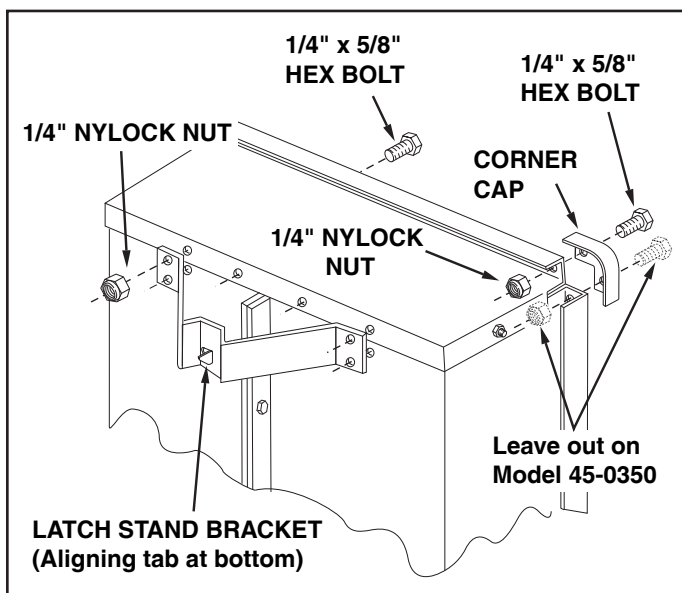

FIGURE 5
12. Assemble the latch stand bracket to the cart so that the aligning tab is at the bottom of the bracket. Use four 1/4" x 5/8" hex bolts and 1/4" nylock nuts. **Tighten**. See figure 5.
13. Assemble a corner cap to each front corner using **one or two** 1/4" x 5/8" hex bolts and 1/4" nylock nuts per cap. **Leave out the rear bolt** if the cart has top rails (model 45-0350 only). **TIGHTEN**. See figure 5.